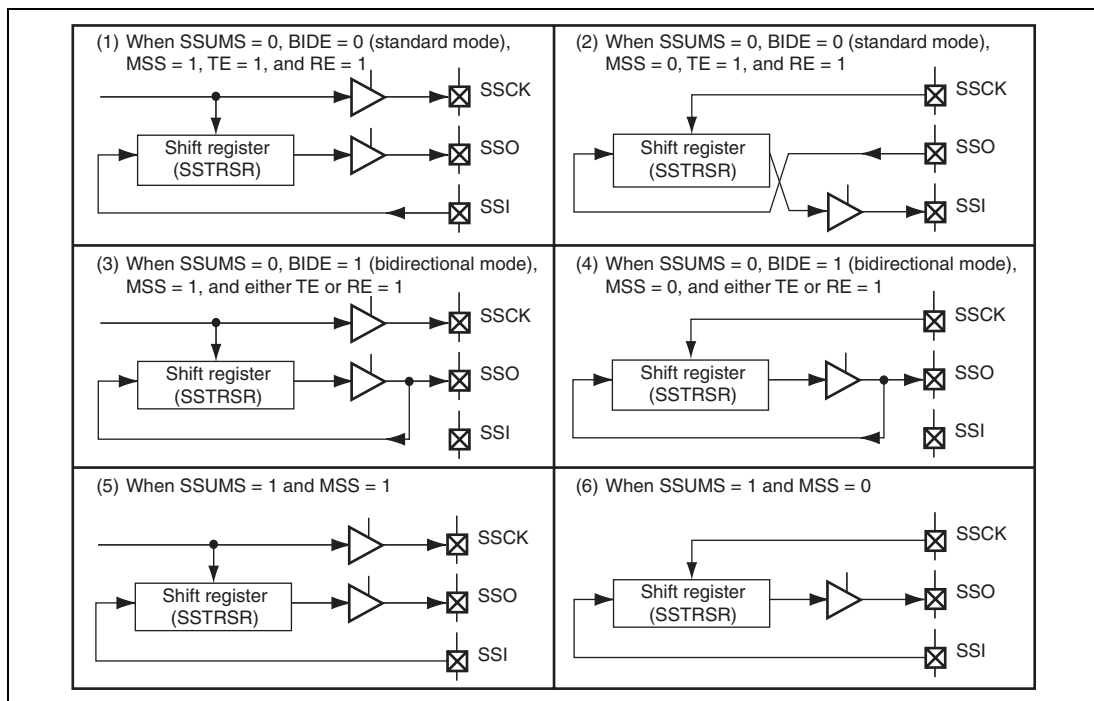

Figure 18.3 Relationship between Data Input/Output Pins and the Shift Register
The connection between data input/output pins and the SS shift register (SSTRSR) depends on the combination of the MSS and BIDE bits in SSCRH and the SSUMS bit in SSCRL. Figure 18.3 shows the relationship.
The SSU transmits serial data from the SSO pin and receives serial data from the SSI pin when operating with BIDE = 0 and MSS = 1 (standard, master mode) (see figure 18.3 (1)). The SSU transmits serial data from the SSI pin and receives serial data from the SSO pin when operating with BIDE = 0 and MSS = 0 (standard, slave mode) (see figure 18.3 (2)).
The SSU transmits and receives serial data from the SSO pin regardless of master or slave mode when operating with BIDE = 1 (bidirectional mode) (see figures 18.3 (3) and (4)).
The SSU transmits serial data from the SSO pin and receives serial data from the SSI pin when operating with SSUMS = 1. The SSCK pin outputs the internal clock when MSS = 1 and function as an input pin when MSS = 0 (see figures 18.3 (5) and (6)).